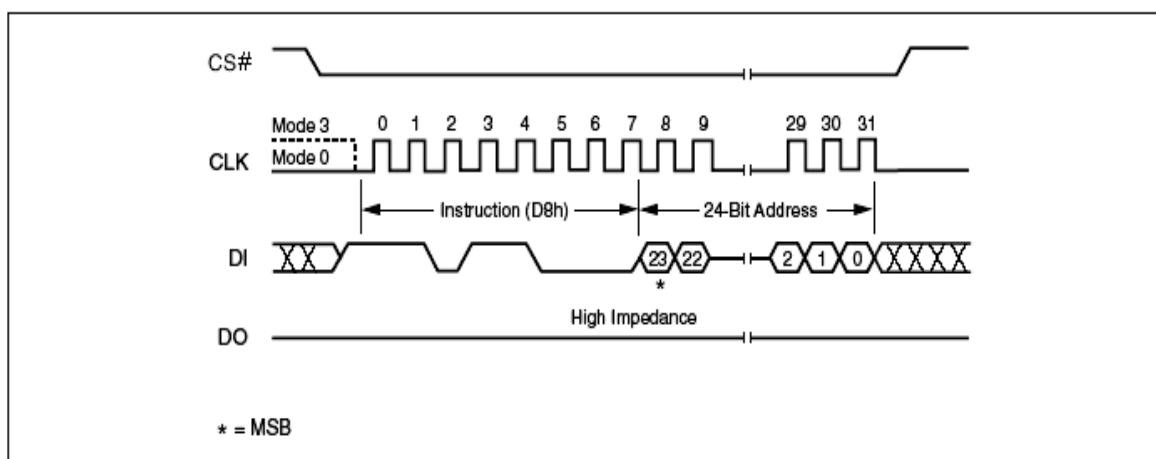

Figure 36. 64K Block Erase Instruction Sequence Diagram
The instruction sequence is shown in Figure 36. Chip Select (CS#) must be driven High after the eighth bit of the last address byte has been latched in, otherwise the Block Erase (BE) instruction is not executed. As soon as Chip Select (CS#) is driven High, the self-timed Block Erase cycle (whose duration is t_{BE}) is initiated. While the Block Erase cycle is in progress, the Status Register may be read to check the value of the Write In Progress (WIP) bit. The Write In Progress (WIP) bit is 1 during the self-timed Block Erase cycle, and is 0 when it is completed. At some unspecified time before the cycle is completed, the Write Enable Latch (WEL) is reset.